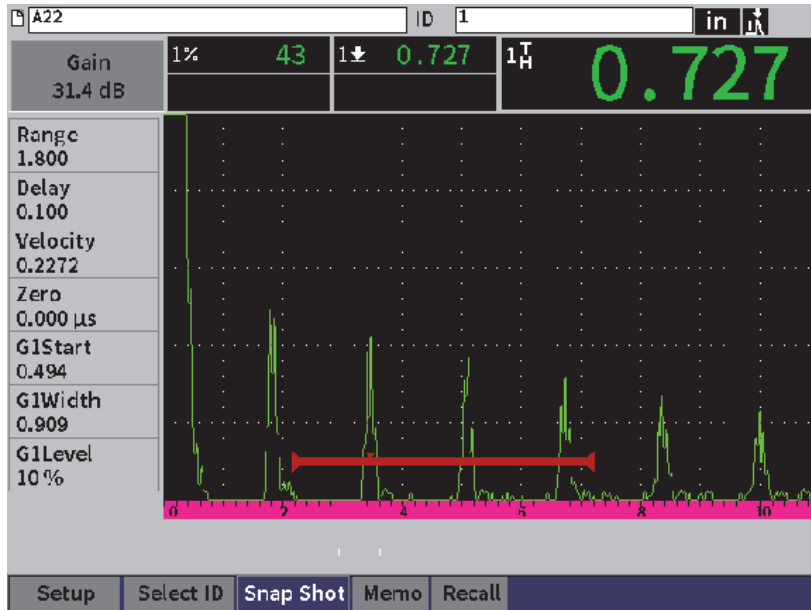

Figure 9-9 Saved file waveform and data
1. With the waveform data page displayed, turn the adjustment knob to highlight the **Snap Shot** button (see Figure 9-9 on page 113).